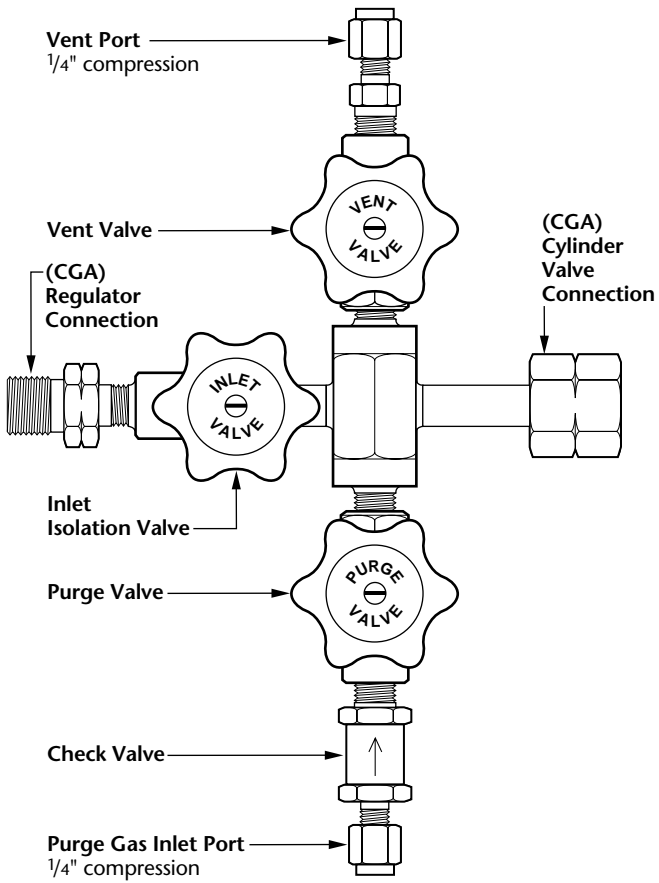

Figure 2- Model SG3897 Cross Type Purge Assembly
3. Use stainless steel tubing to connect the vent port (Figs. 2 or 3, see pgs. 8 and 9) of the purge assembly to a suitable system for disposing of the purged process gas.
7. Connect a regulated source of clean dry nitrogen to the purge gas inlet port (Figs. 2 or 3, see pgs. 8 and 9).